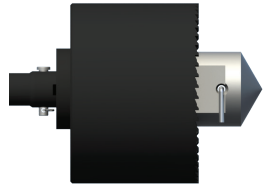

FIGURE 30
2.7.2) Insert the centering tool into the pilot bit hole, align the through-hole with the saw mandrel through-hole, and lock it in place with a cotter pin and clip (see Figure 30).